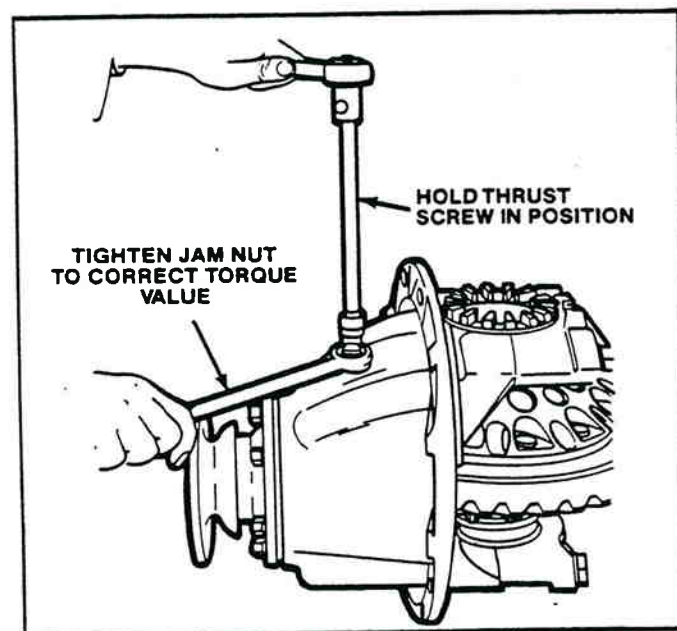

Figure 2-100. Torquing Jam Nut On Thrust Screw.
4. Tighten the jam nut to the correct torque value against the carrier (Figure 2-100). See the torque chart later in this section.